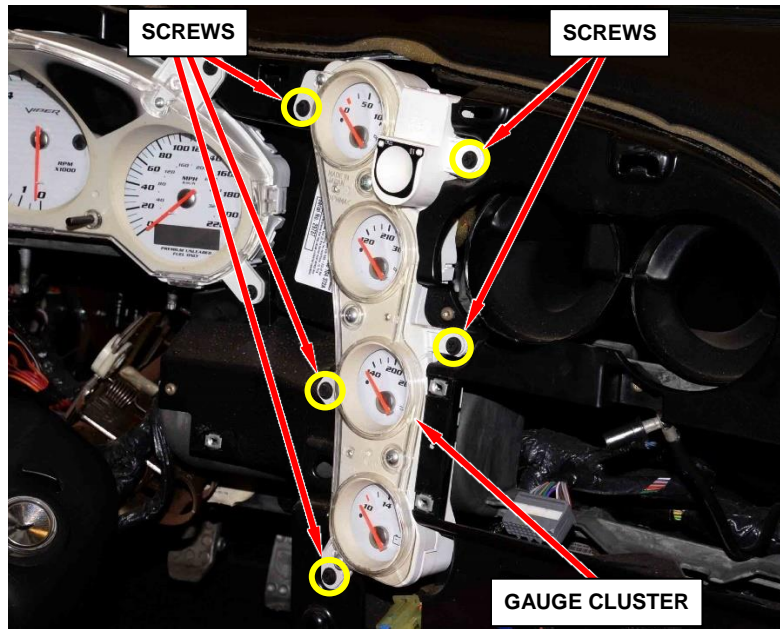

Figure 15 – Gauge Cluster
- 33. Remove five screws securing the gauge cluster to the instrument panel (Figure 15).
50. Install the five screws securing the gauge cluster to the instrument panel (Figure 15).